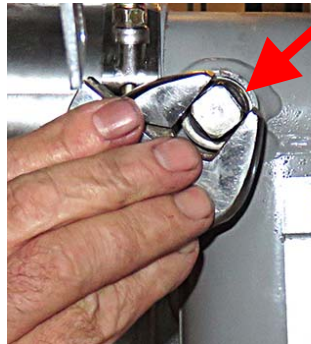

Figure 90
95. Remove the plug from the rear of the drain dump tube (see Figure 90).